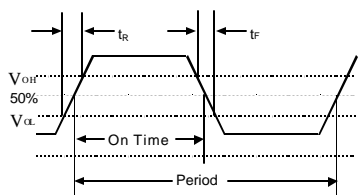
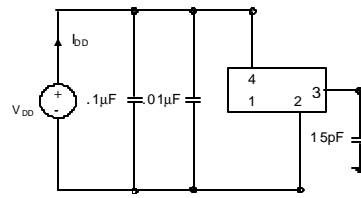

Figure 1. Output Waveform
Figure 2. Output Test Conditions ( $25 \pm 5^\circ\text{C}$ )
2. Figure 1 defines these parameters. Figure 2 illustrates the operating conditions.
3. Duty cycle is defined as (on time/period) per Figure 1.